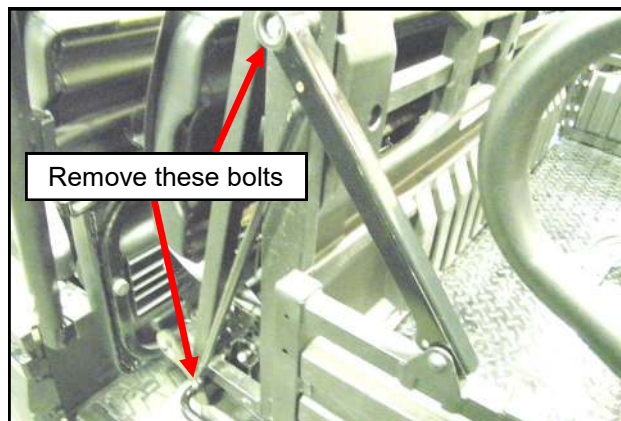

Fig. 3.1 Rear seat latch mechanism
- 3.1** Per figure 3.1, remove the rear seat latch mechanism from each side by removing the metric screws at each pivot point. Retain the screws.